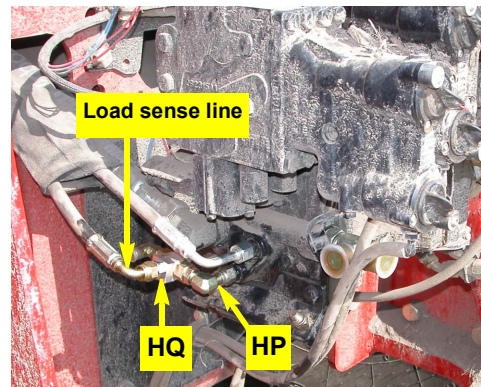

Figure 5c: Installed load sense shuttle
- c. Disconnect the load sense line from the valve stack then reconnect it to the center fitting **HQ** of the load sense shuttle. Connect adapter fitting **HP** on the load sense shuttle to the valve stack port (Figure 5c).